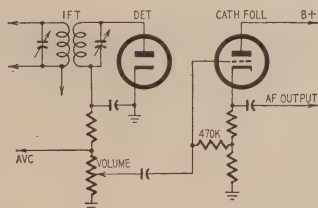

Fig. 2—Detector feeds cathode follower.
1) in the following audio stage or by using a cathode follower after the diode (Fig. 2). In the first case, the diode load looks into a grid resistor of 3 to 10 megohms; in the second case, the grid resistor may be 1 megohm or less but the effective input resistance is multiplied up to 10 times by the current feedback of the follower. In either case, the diode should be capable of handling high modulation percentages with acceptably low distortion.